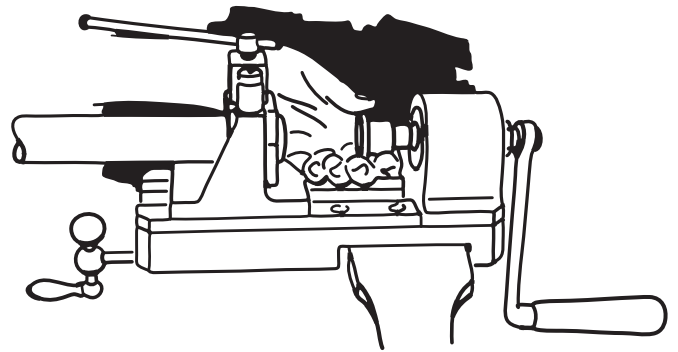

Figure 2-9
d. The two tube stop gages are marked on the shank with appropriate sizes and wall thicknesses of tubing. Select the proper gage and insert in spindle opening. (See figure 2-9.)